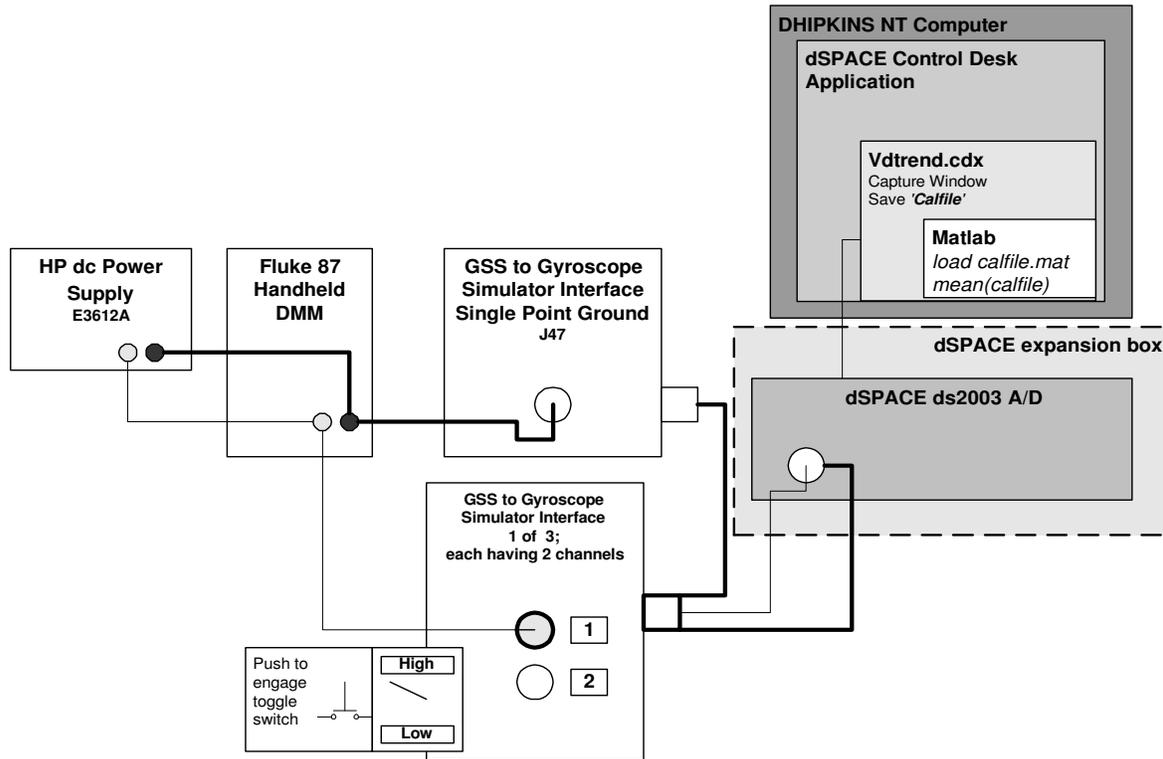

Figure 1. Setup for calibration of FSU to Gyroscope Simulator Interface.
12.1.1. Configure the test setup per figure 1.